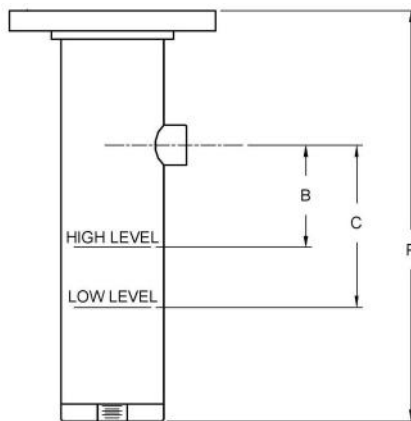

Figure 1
3. See Insulation Descriptions on page 40; Insulation Flange (IF) is recommended for personnel safety.
7. Only applicable if retrofitting Top Insertion Model into existing Chamber. See Figure 1 below. Customer to specify existing Chamber Length (P) and Chamber ID.